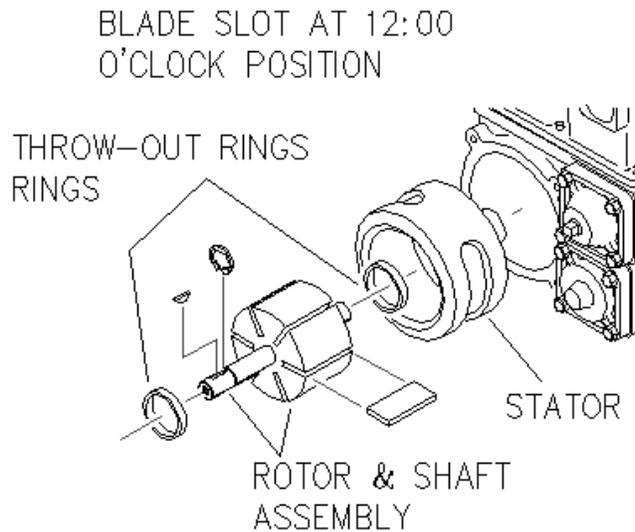

Figure 44 – GPU-90 – Pump cartridge blade assembly
5. Repeat step 3 for the remaining blades. See Figure 44